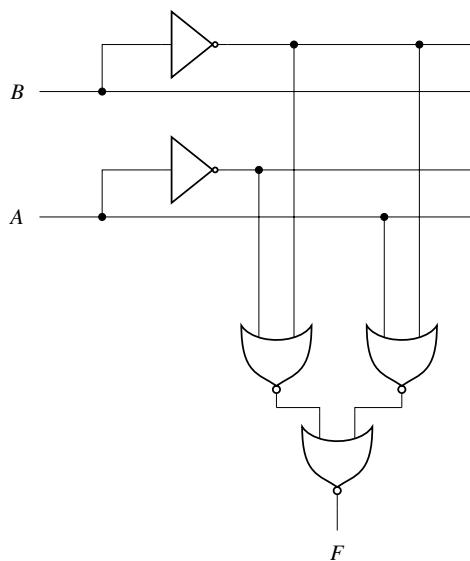

Fig. 3.25
43. The logic block shown in Fig. 3.25 has an output  $F$  given by \_\_\_\_\_. (GATE EC 2020)